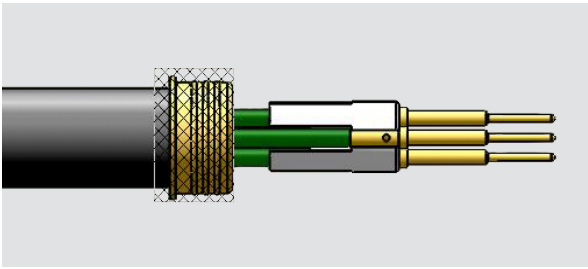
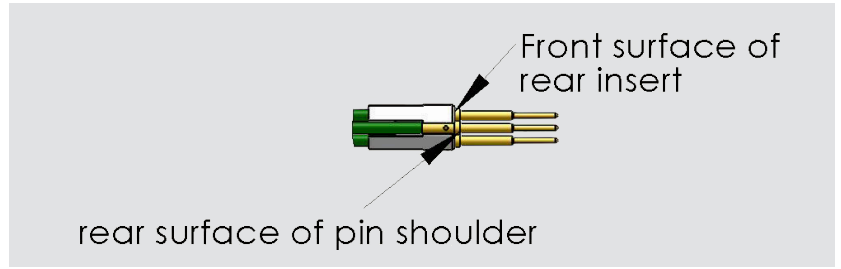

Figure 7
Figure 8
5. Insert 4 contacts into the rear insert as shown in Figure 7. The two surfaces of the front rear insert and rear pin shoulder should now be touching as shown in Figure 8.